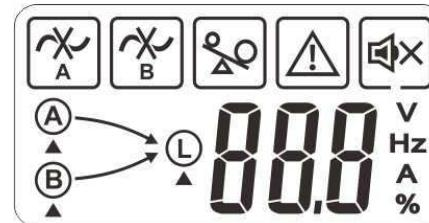
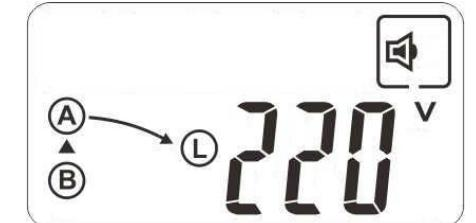

Figure 3
Figure 4
Once the input power is connected, the ATS automatically boots up and the LCD display and LEDs (A, B,) are lit as shown in Figure 3. After boot up, the LCD display the input source voltage as shown in Figure 4 and the selected Input indicator A (A) LED or Input indicator B (B) LED is lit.